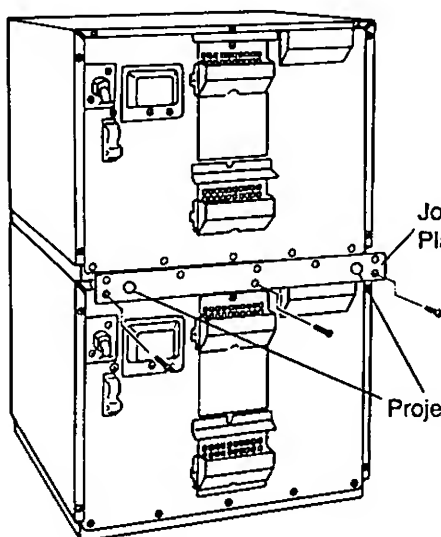

Fig. 2.
3. Attach PANASONIC Joint Plate to top of the base unit first by using the on the base 3 screws previously removed. See Fig. 2.